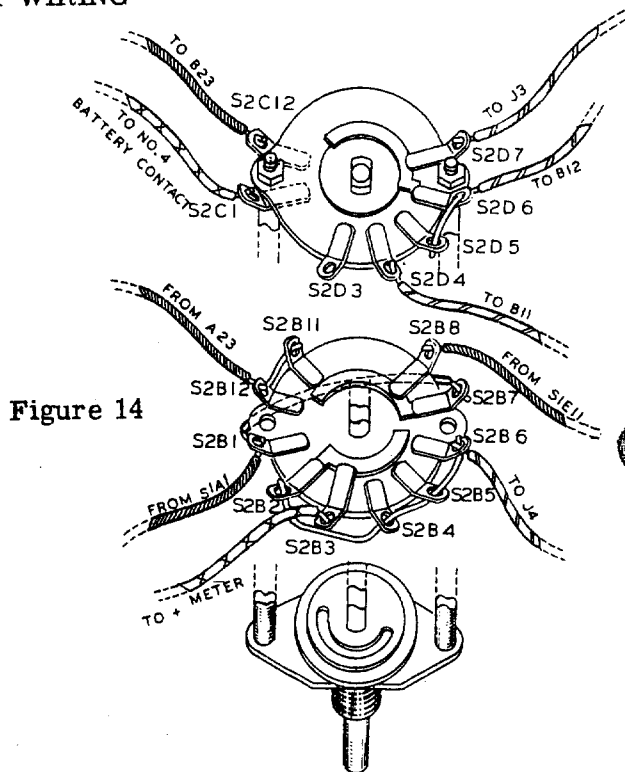

Figure 14
**NOTE:** The function switch when mounted has very little clearance between it and the side of the case. Consequently the wiring along the side of the switch, numbering from 1 to 6, must be kept close to the switch and the switch terminals must not be bent outward. See Pictorial 1 and Figure 14.
- ( ) Connect a bare wire to S2B2 (S). Run wire down below the switch deck to clear S2B3 and over to S2B4, 5, and 6. Solder all but S2B6.
- ( ) Connect a bare wire from S2B11 (S) to S2B12 (NS).
- ( ) Connect a bare wire from S2D5 (S) to S2D6 (NS).
- ( ) Connect a bare wire to S2B7 (S). Cover wire with a 2" length of spaghetti and run under switch deck to S2B1 (NS). See Figure 14.